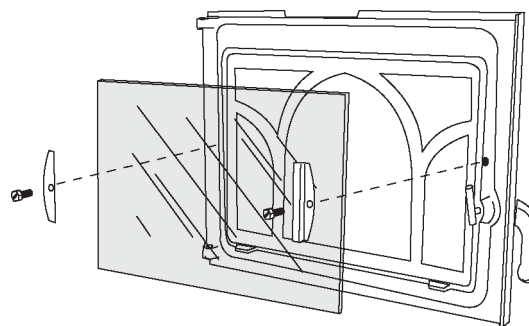

Figure 14. Glass and Gasket Replacement
2. Center the new glass panel over the gasket and reinstall the glass clips. **See figure 14.**